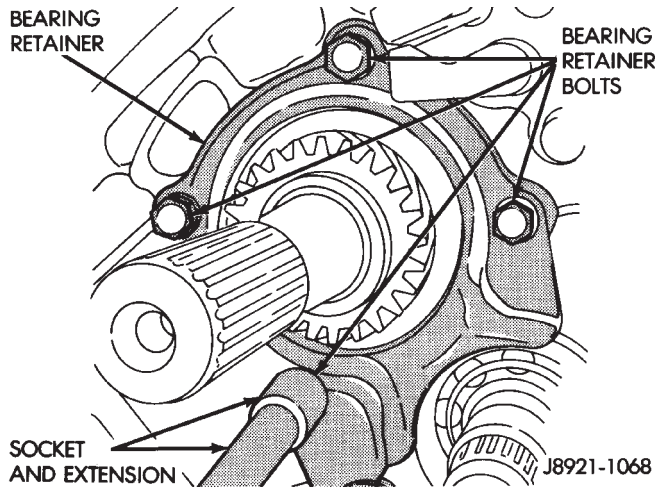

Fig. 38 Output Shaft Rear Bearing Retainer Bolt Removal
- (19) Remove bolts attaching output shaft rear bearing retainer to intermediate plate (Fig. 38).